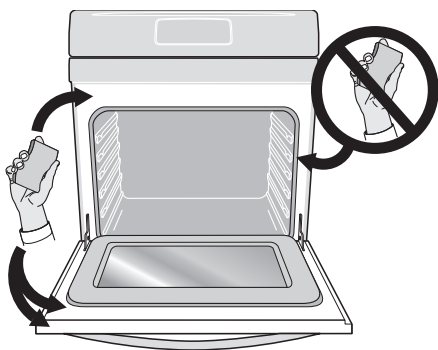

Figure 19: Clean around the oven door gasket
- Do not clean the oven door gasket (Figure 19). The woven material of the oven door gasket is essential for a good seal. Care should be taken not to rub, damage, or remove the gasket.
- Clean any soil from the oven frame, the door liner outside the oven door gasket, and the small area at the front center of the oven bottom. These areas heat sufficiently to burn soil on. Clean with soap and water. These areas are shown in white (Figure 19).